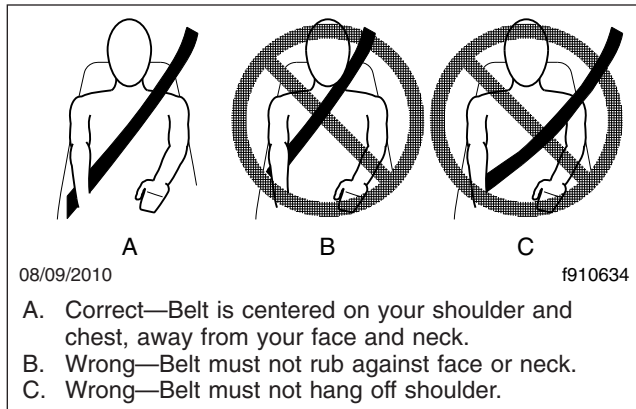

Fig. 6.11, Proper Shoulder Strap Fit
5. Position the shoulder strap diagonally across your chest with the adjustable D-loop bracket (if equipped). The shoulder strap must be centered on your shoulder and chest, away from your face and neck. See Fig. 6.11. If desired, engage the Komfort Latch or Sliding Komfort Latch as follows.
5. Position the shoulder strap diagonally across your chest with the adjustable D-loop bracket (if equipped). The shoulder strap must be centered on your shoulder and chest, away from your face and neck. See Fig. 6.11.